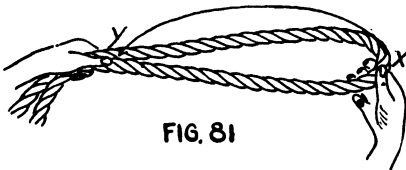

FIG. 81
**Fisherman's Eye Knot.** This knot may be made by the method just described or by another method somewhat more complicated but much quicker when learned. Make a bight in the rope (fig. 81). Then grasping the bight with the right hand at *x* lay it over on the two strands at *y* thus forming two loops (fig. 82). Now cross the loops as in fig. 83 and with the right hand draw the strand *x* down between the two ropes *y* and up through the loop *a* as indicated by the arrow in fig. 83. Fig. 84 shows the knot completed.